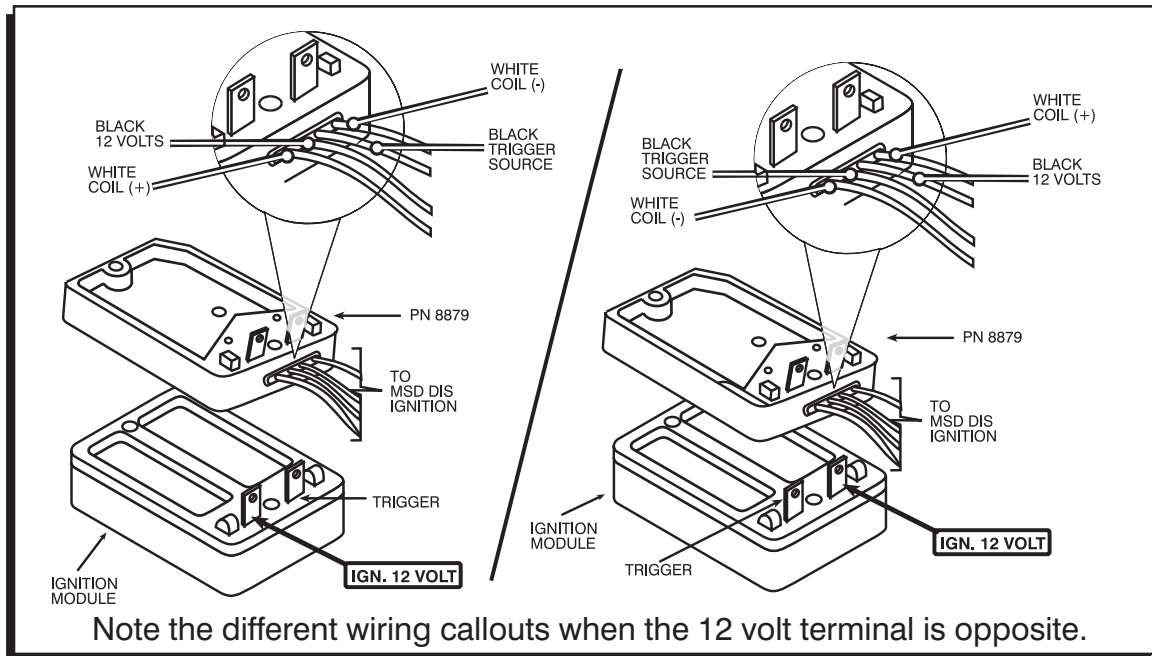

Figure 3 Wiring After Locating the 12 Volts Terminal.
4. With the 12 volt terminals identified, mark the four wires of the Interface Module (Figure 3 and 4). The White wire above the 12 terminal wire will always be Coil Positive (+). The other White wire will always be the coil negative wire.